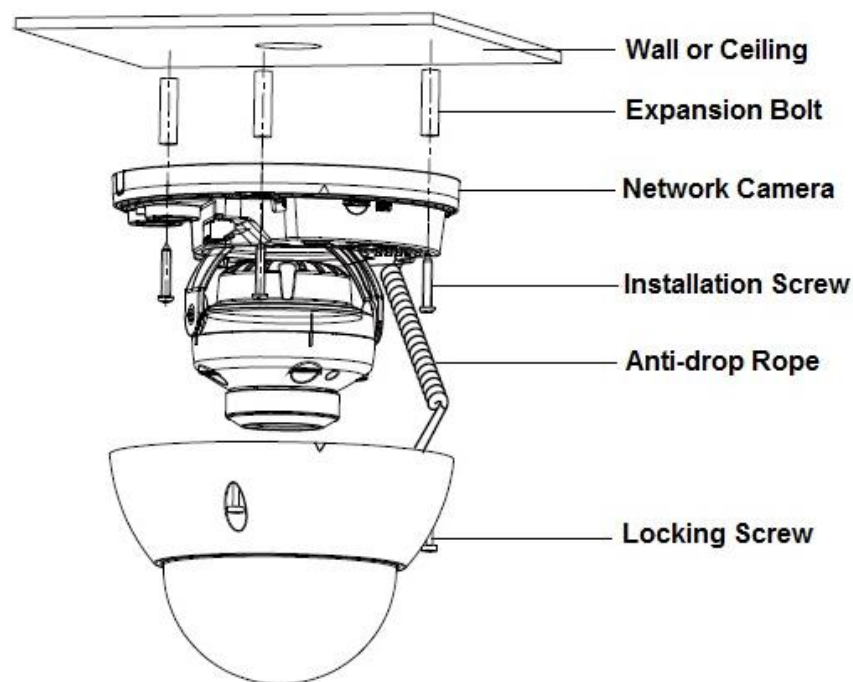

Figure 2-1
- The following installation figures are for reference only; please refer to Figure 2-1 according to the actual product.